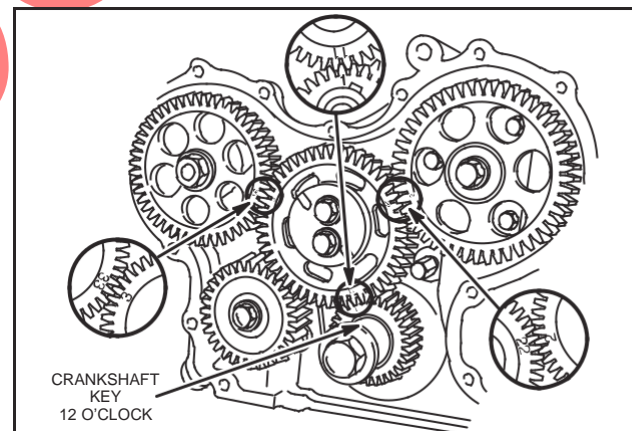

Fig. 16 – Aligning Timing Marks
7. With crankshaft key at 12 o'clock position, assemble idler gear so that timing mark 11 (AA) is aligned with timing mark 1 (A) on crankshaft gear, timing mark 22 (BB) is aligned with timing mark 2 (B) on camshaft gear, and timing mark 33 (CC) is aligned with timing mark 3 (C) on injector pump gear, as shown in Fig. 16.